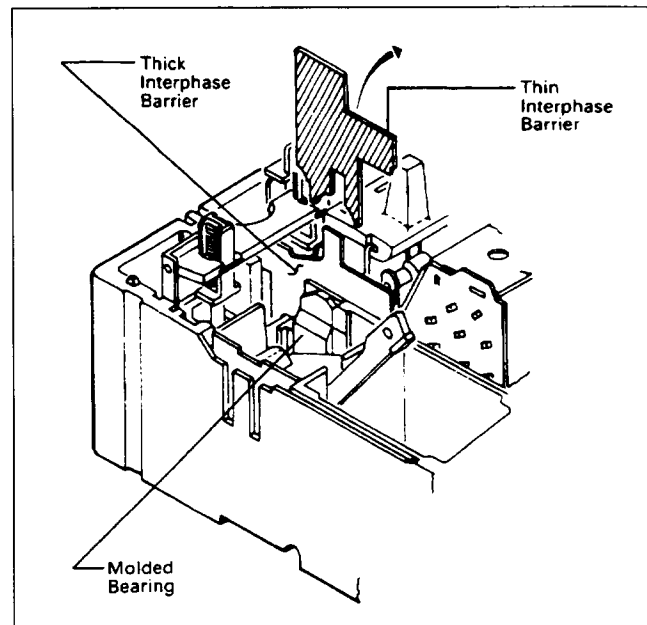

Fig. 2-4. Removal of Thin Interphase Barrier
- b. Remove thin interphase barrier positioned between molded bearing and thick interphase barrier as shown in Fig. 2-4.
Note: When installing replacement interphase barrier after the UVR, make sure the thick interphase barrier remains in position in the HMCP base mounting slots. (See Fig. 2-4.)